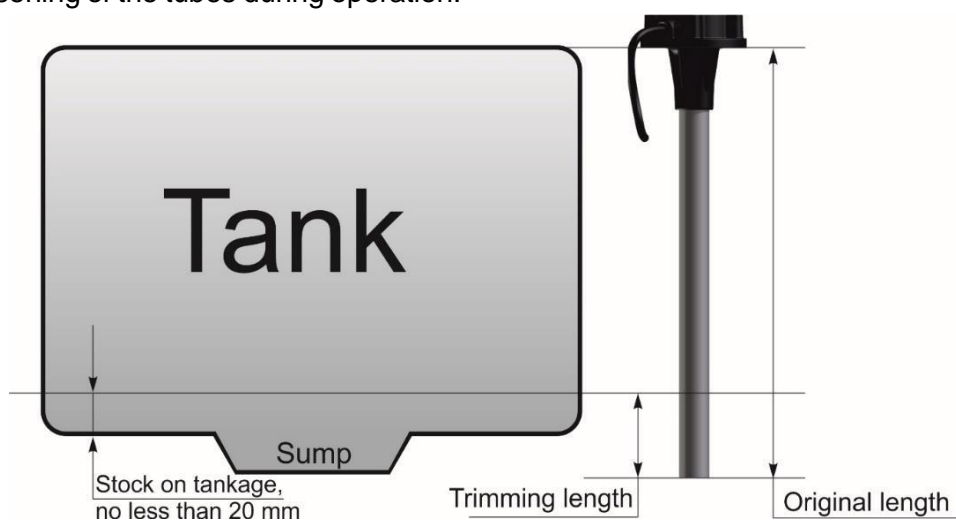

Figure 15 - Diagram of the sensor cutting
2. Trim the sensor to the desired height - see Fig. 15. Use hacksaw to saw off the aluminum tube to the height of the tank, leaving not less than 20 mm between the end of the sensor and the bottom of the tank for accumulation of water and dirt. Thoroughly clean aluminum shavings between handsets. Remove bevel from the tubes.